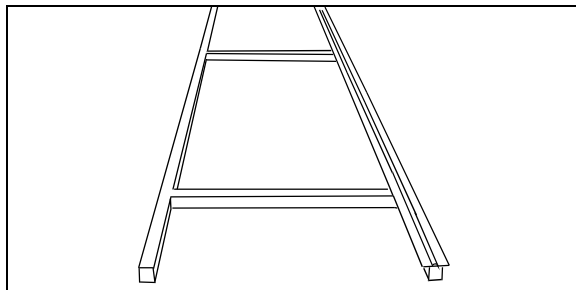

FIGURE 25: SUPPORT RAIL INSTALLATION 06501
2. Set the support rail (Prévost #29261) down (Fig. 25). Using shims, adjust its level to stabilize it.
- Set the support rail (Prévost #29261) down (Fig. 25). Using shims, adjust its level to stabilize it. Use previous reference marks to ensure proper positioning.